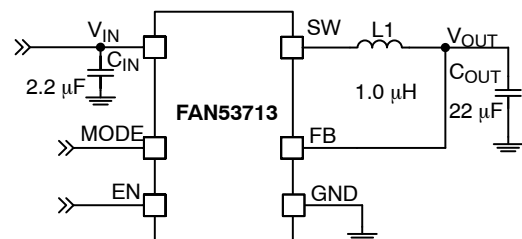

Figure 1. Typical Application
**Table 8. SYSTEM CHARACTERISTICS** The following system characteristics are guaranteed by design and are not performed in production testing. Recommended operating conditions, unless otherwise noted,  $V_{IN} = 2.3\text{ V to }5.5\text{ V}$ ,  $T_A = -40^\circ\text{C to }+85^\circ\text{C}$ ,  $V_{OUT} = 1.8\text{ V}$ . Typical values are given at  $T_A = 25^\circ\text{C}$ ,  $V_{IN} = 3.6\text{ V}$ . System characteristics are based on circuit per Figure 1.
Unless otherwise specified,  $V_{IN} = 3.6\text{ V}$ ,  $V_{OUT} = 1.8\text{ V}$ , Auto Mode,  $T_A = 25^\circ\text{C}$ ; circuit and components according to Figure 1 and Table 2.